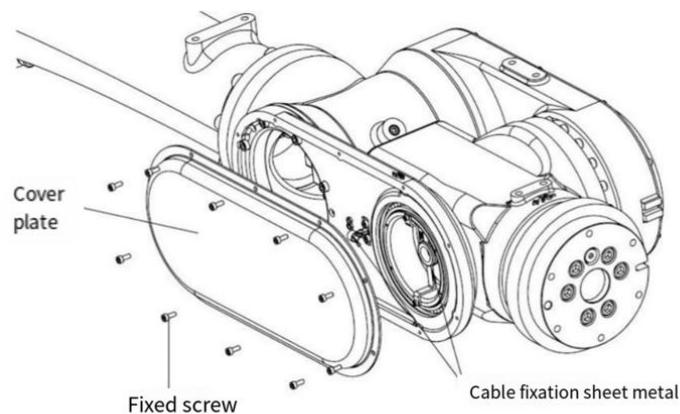
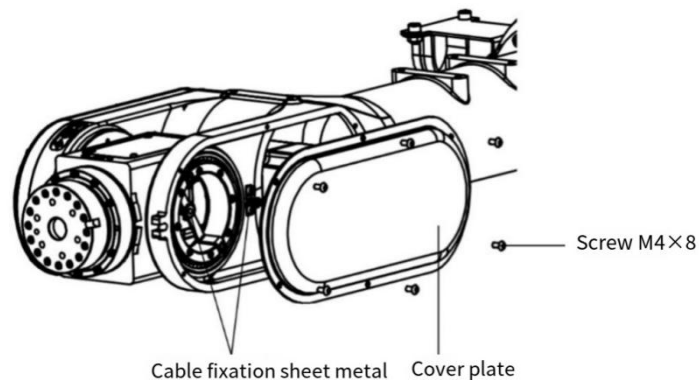

Figure 127 Internal cable of the wrist for
Figure 128 RX3-A635-2700/RX3-A620-3100 internal wrist cable
Step1、 Remove the cover plate as shown in Figure 127 or Figure 128.